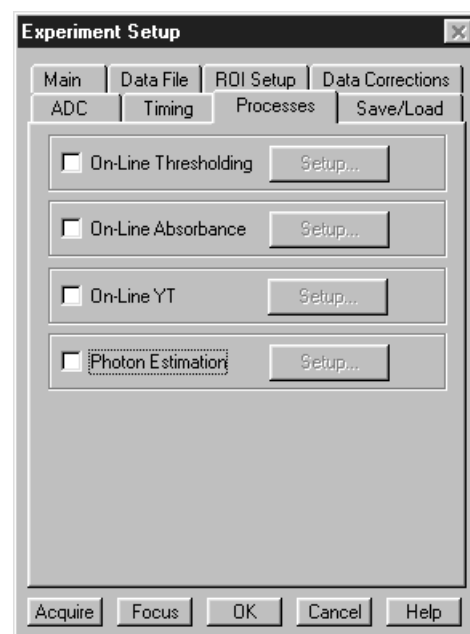

Figure 126. Processes tab page
6. Select the **Processes** tab page (Figure 126).